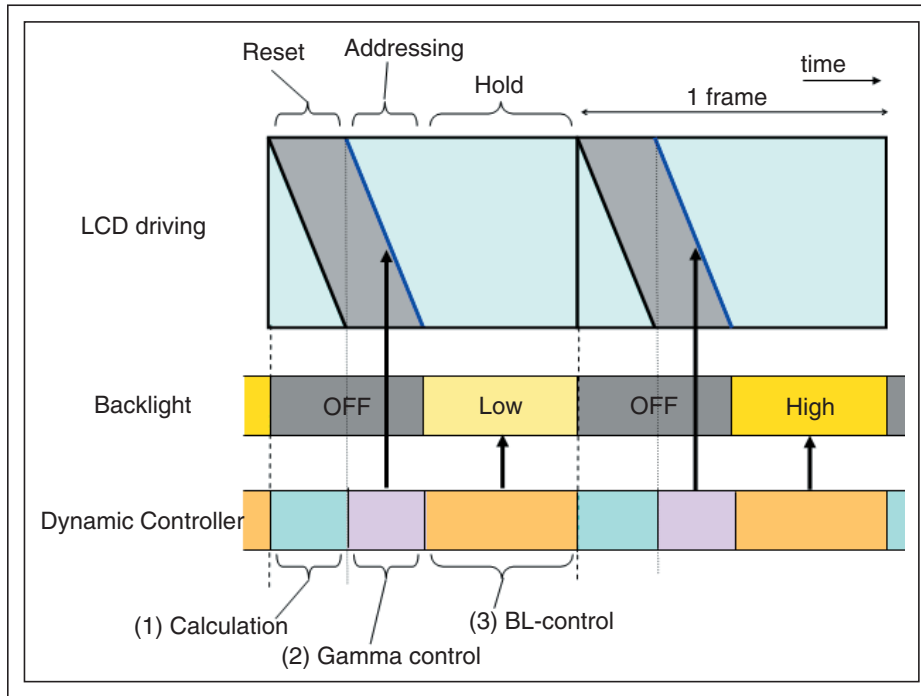

Fig. 2: Design of OCB-III LCD with dynamic-backlight-control technology.
Among conventional OCB driving methods, OCB-III driving is most suitable for dynamic-backlight-control technology because it separates each sequence of frame images. Figure 2 shows the driving scheme of OCB-III with dynamic-backlight-control technology. In this driving method, one frame is divided into three periods: (1) reset period, (2) addressing period, and (3) hold period. In the reset period, whole data are reset; in the addressing period, new data are written in each pixel by scanning in a similar manner. After whole data are written, the display data are held